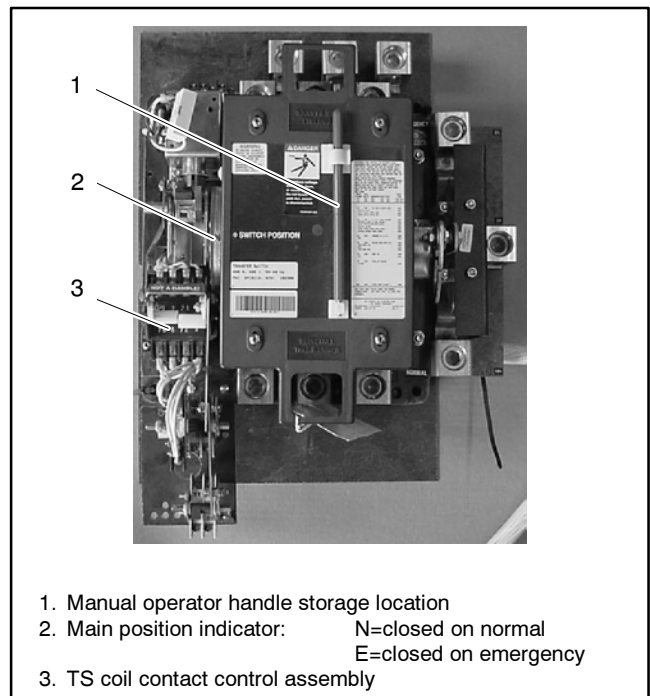

Figure 6-8 Transfer Switch, 225-400 Amp Models
3. Locate the TS coil control contact assembly. See Figure 6-8 .